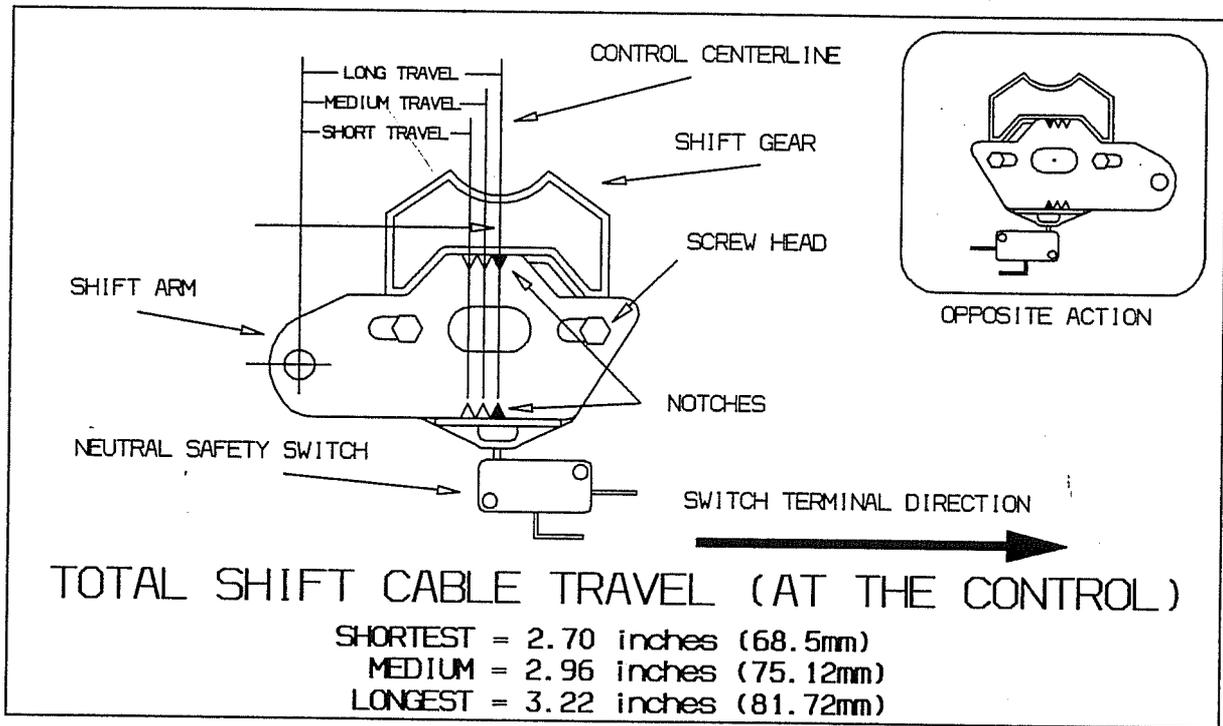

Fig. 2 - Shift Cable Travel Setting.
The control box can be easily adapted for short (2.70 in/68.5 mm), medium (2.96 in/75.12 mm) or long (3.22 in/81.72 mm) travel of the shift cable. Refer to Fig. 2 where the long travel setting is shown. The standard setting at manufacturing is the medium one (center notch). Setting change is obtained as follows:
- Check the shift arm setting for cable travel (short, medium or long). Reset if necessary following the above procedure (Refer to Fig. 2).